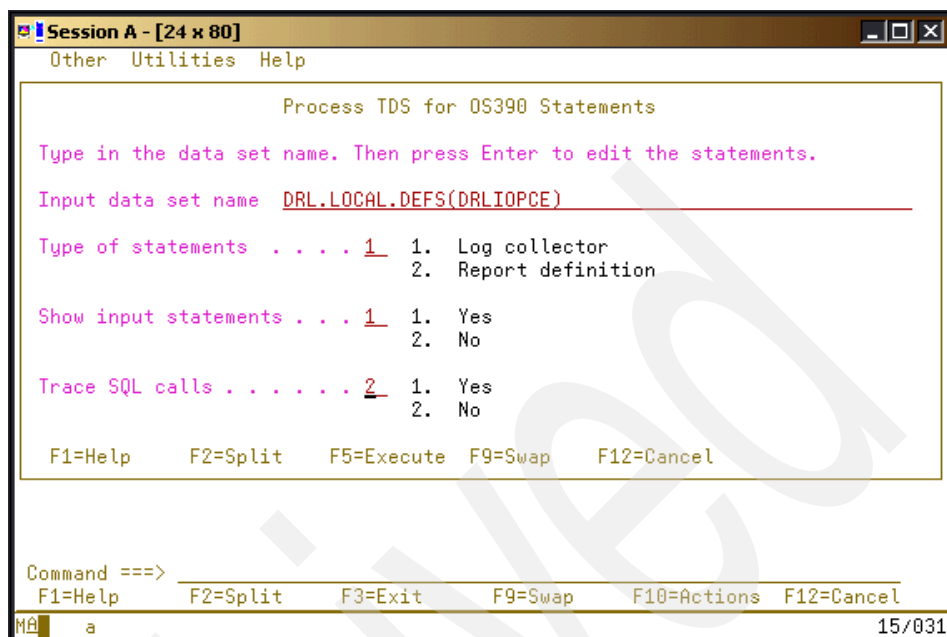

Figure 6-27 Defining the extra component
4. Complete the panel as shown in Figure 6-27 on page 258 and press F5 (Execute) for the Extra OPC Component to appear in the list of components. The results of the SQL statements execution are returned to our *userid.DRLOUT* data set.